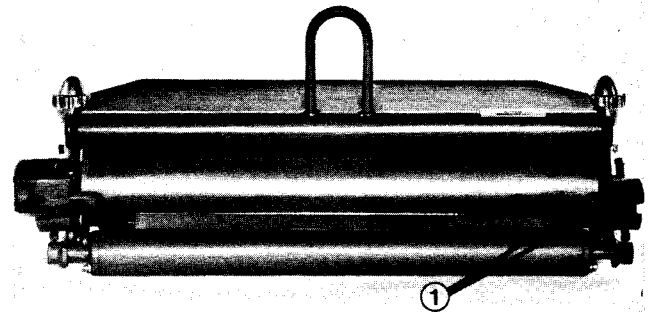

Figure 24
IMPORTANT: When installing the bedbar assembly, be sure to position the center portion of the grass shield over the rear edge of the bedbar (Fig. 24). Securely seat the (2) bedbar pivot bolts to a maximum torque of 40 ft-lbs. Always check reel bearing adjustment after installing bedbar.